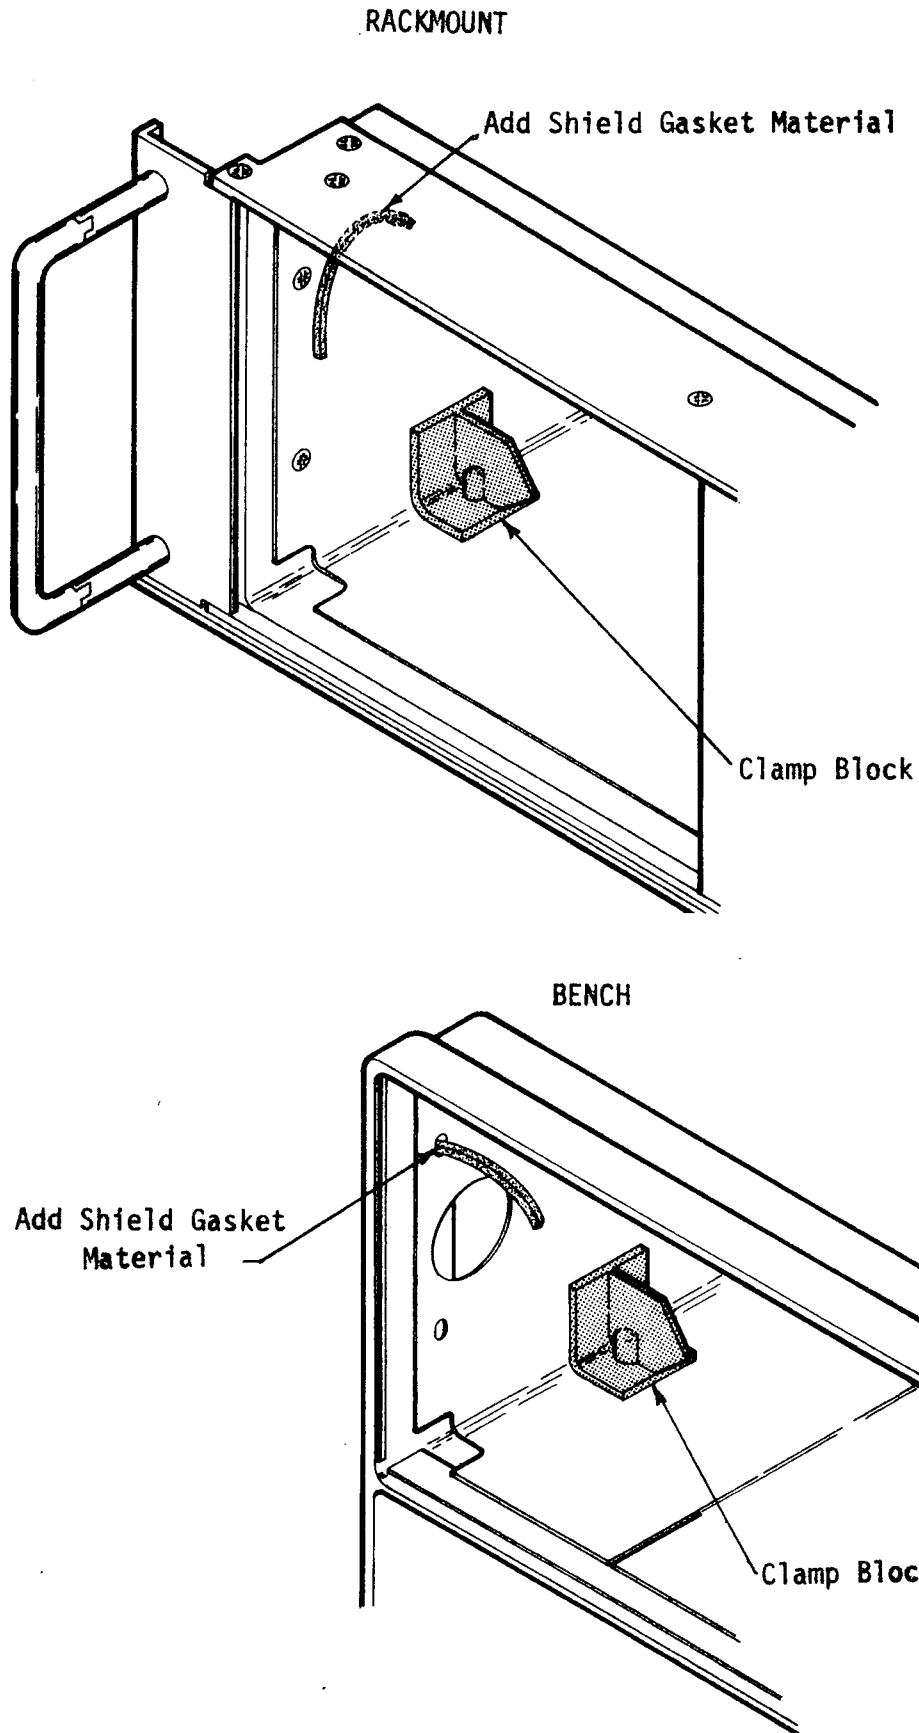

Fig. 1. Location of Added Shield Material
- () 16. Insert the 1.0-inch piece of D-shaped gasket (provided in the kit) through the hole near the upper left corner of the crt shield. The gasket material should be inserted far enough to touch the upper front cabinet frame. Refer to Fig. 1.
- () 26. Refer to the Calibration Section (3) of the Instruction Manual and make any necessary checks and adjustments.